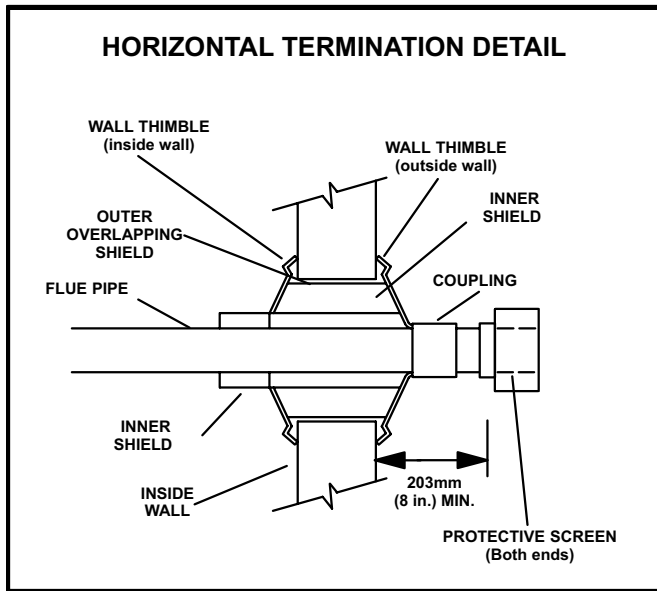

FIGURE 16
- 8 - The tee termination shown in figures 16 and 17 is the only acceptable termination.